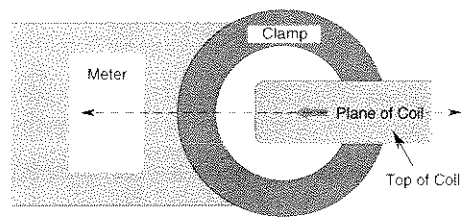

Fig. 5.5 Position of Coil
- *Fig 5.5.* Place the vertical arm of the coil, as far as is possible, in the center of the air space of the clamp. Align the center axis of the meter along the plane of the coil itself.